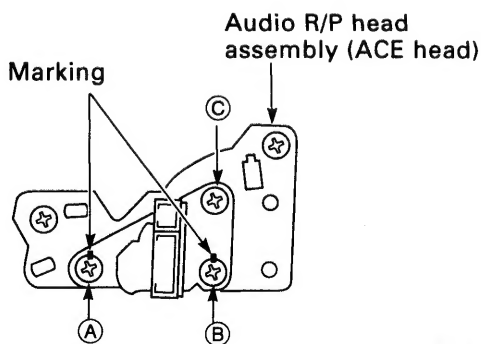

Fig.4-3-5
(1) Height/azimuth adjustment (See Fig.4-3-5)